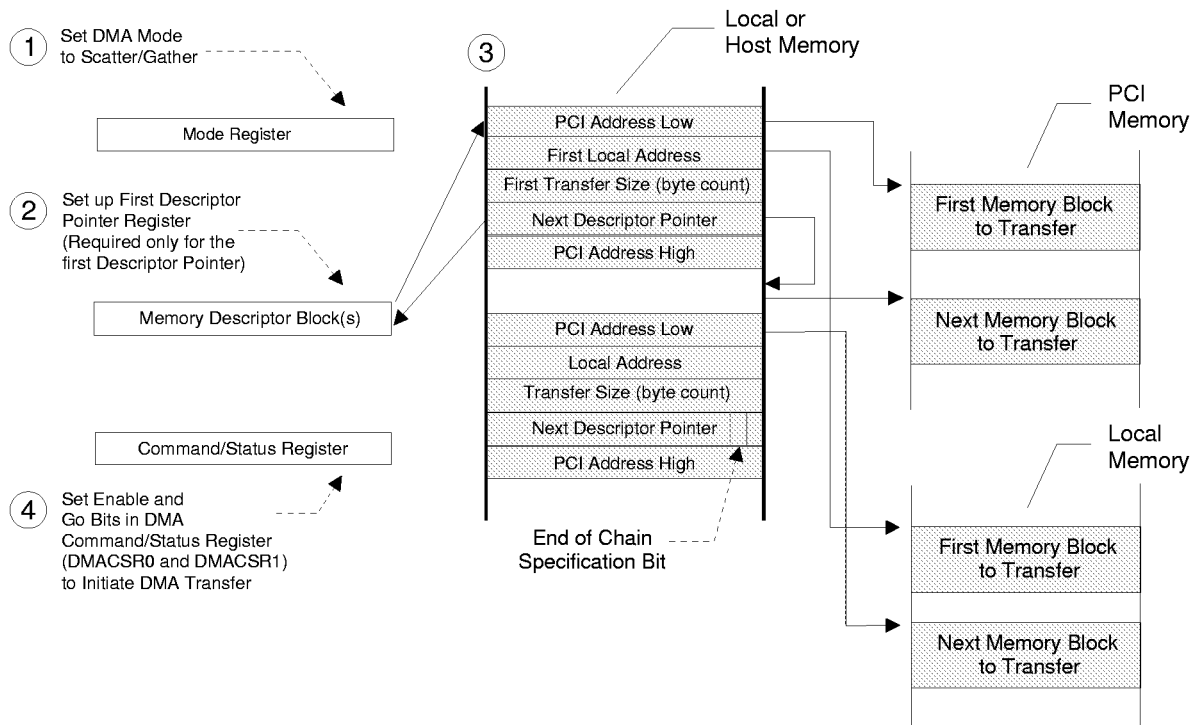

Figure 3-17. Scatter/Gather DMA Mode Descriptor Initialization [DAC PCI Address (DMAMODE0[18], DMAMODE1[18]) Descriptor Dependent (PCI Address High Added)]
- DMADAC0 and/or DMADAC1 contain(s) an 0x00000000 value. DMAMODE0[18] and/or DMAMODE1[18] is set to 1. The PCI 9054 performs a SAC five-Lword descriptor block load from PCI memory and DMA transfer with DAC on the PCI Bus. (Refer to Figure 3-17.)
- DMADAC0 and/or DMADAC1 contain(s) a non-zero value. DMAMODE0[18] and/or DMAMODE1[18] is set to 1. The PCI 9054 performs a SAC five-Lword descriptor block load from PCI memory and DMA transfer with DAC on the PCI Bus. The fifth descriptor overwrites the value of the DMADAC0 and/or DMADAC1 register. (Refer to Figure 3-17.)